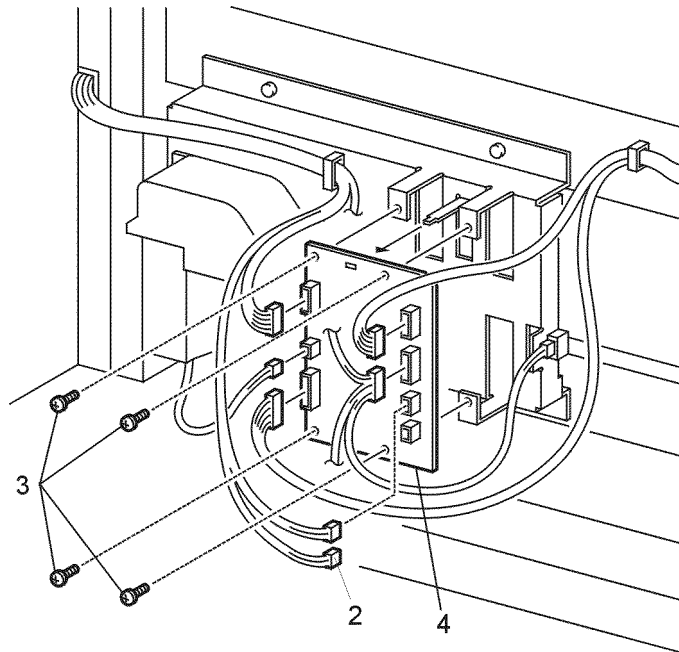

Figure 1 2000 Sheet Feeder PWB
3. Remove the four screws that secure the PWB (Figure 1).
4. Remove the PWB (Figure 1).